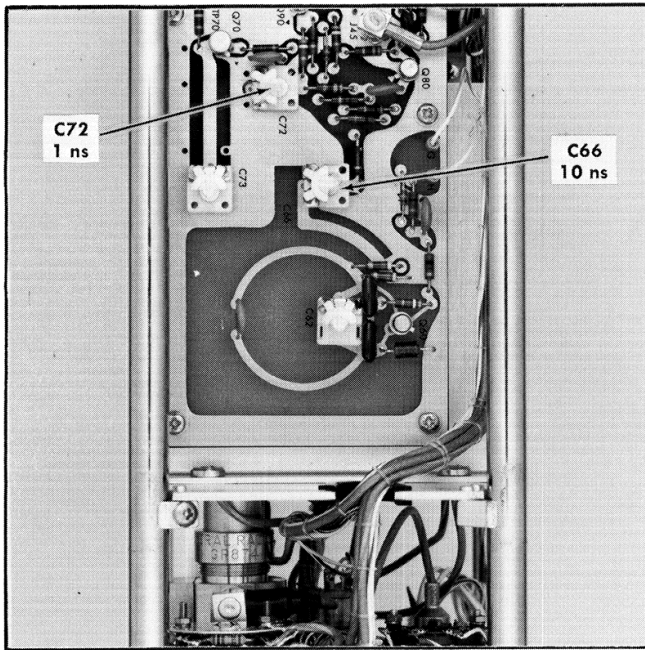

Fig. 6-20. Location of amplitude adjustments for steps 11 and 12.
c. If the peak-to-peak amplitude is not 100 mV ±20% (5 cm ±1 cm), adjust C66 (see Fig. 6-20 for location) for an amplitude of 5 cm ±1 cm.
①
c. If the amplitude of the Sine Wave display is $5 \text{ cm} \pm 1 \text{ cm}$ ($100 \text{ mV} \pm 20\%$) no adjustment is recommended as a change in capacity of C72 (location shown in Fig. 6-20) especially near minimum, will affect the frequency of the 1 ns period. If adjustment of C72 is necessary to obtain a display amplitude of $5 \text{ cm} \pm 1 \text{ cm}$, repeat step 10.